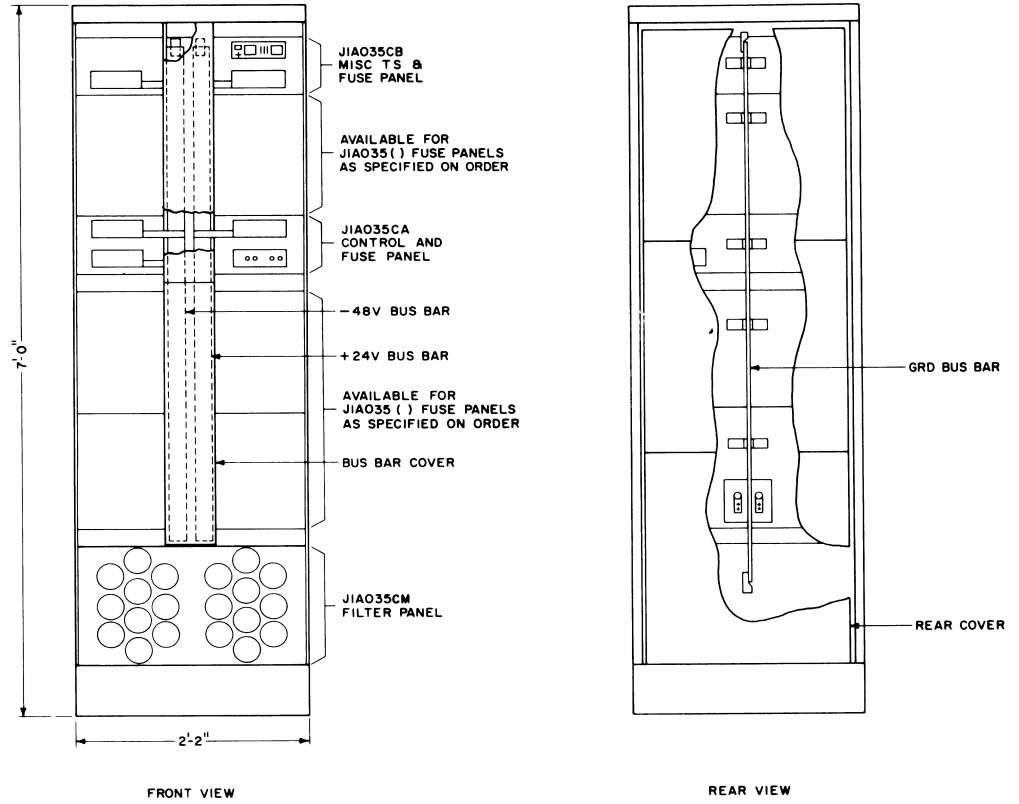

Fig. 4—Power Distributing Frame
**2.09** The power distributing frame (Fig. 4) is the fused distributing point for the +24 volts and -48 volts from the power plant to the various frames in the No. 1 and No. 1A ESS central office. The power distributing frame supplies an average of 500 amperes for each +24V and -48V. Three frame bus bars are provided for connection to the power plant. Distribution is made from terminals in fuse blocks and on the frame ground bus bar. The power distributing frame provides fusing for a maximum of ninety-eight +24 volt circuits and one hundred and six -48 volt circuits. A minimum of two frames are required for each central office. The frame is a standard single bay frame measuring 2 feet 2 inches wide and 7 feet high.